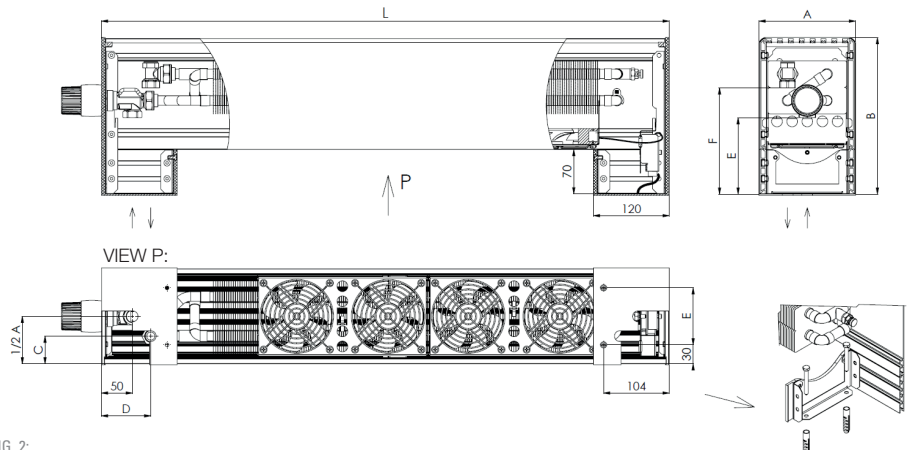

FIG. 2:
- › Plan the placement on the floor according to the convector dimensions in table 1 and on Fig. 2.
- › Install the valves (axial valve and the control screw fitting) on the heating pipe according to the dimensions on Fig. 2 and Table 1. Adhere to the dimensions for the particular model.